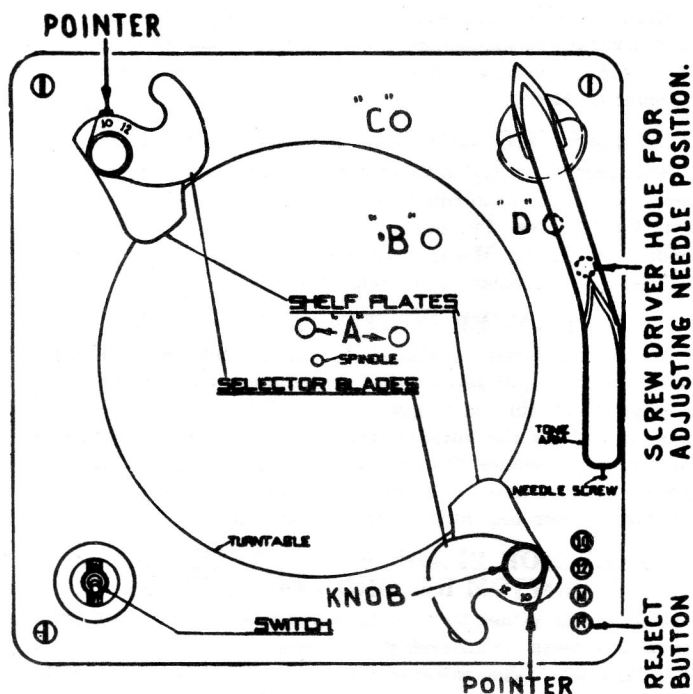

FIG. 1 SHOWS SELECTOR BLADES IN POSITION FOR 10-INCH RECORDS.
To set for record size. (1) Clasp one of the posts just underneath the shelf plate, with thumb and finger of left hand. With right hand, lift knob and turn selector plate until the figure 10 or 12 (whichever size you want to play) is opposite the pointer. Do the same with the other post. Both selector plates must be in 10 or 12 position. (2) Push button marked 10 or 12, as required (see Figure 1).
The record changer will not need lubrication more than once a year and should be lubricated with a good light machine oil such as S.A.E. 10. There are 6 locations that will need oiling. These are shown in Figure 1. These lubricating holes can be reached from the top of the mechanism and are as follows:
1. The motor gear housing contains 3 lubricating wicks. These wicks are shown at "A" in Figure 1. Two of these wicks are reached through the hole directly in back of the turntable spindle and the other wick to the right of the turntable spindle.
2. A small quantity of oil should be dropped through hole marked "B" in Figure 1. Lubricating this point distributes oil to the various moving surfaces of the mechanism.
3. A felt wick directly below the hole marked "C" in Figure 1 should also be oiled.
4. Another felt wick marked "D" in Figure 1 should also be well oiled.
Adjustment of the landing position of the needle on records is controlled by the adjusting screw located in the hole shown in Figure 1. This adjustment is made with a screw driver from the top of the mechanism and does not require the removal of the changer from the cabinet. If the needle comes down too far from the edge of the record, playing of records will not start at their beginning. In this case, turn the needle positioning adjustment screw very slightly counter-clockwise. If the needle comes down too close to the edge of the record, the pickup may slip off the record. To adjust this condition turn the adjusting screw clock-wise. If adjustment screw is too far to rear and cannot be adjusted through hole in base plate, depress "Manual" push button, and push bracket—Forward.